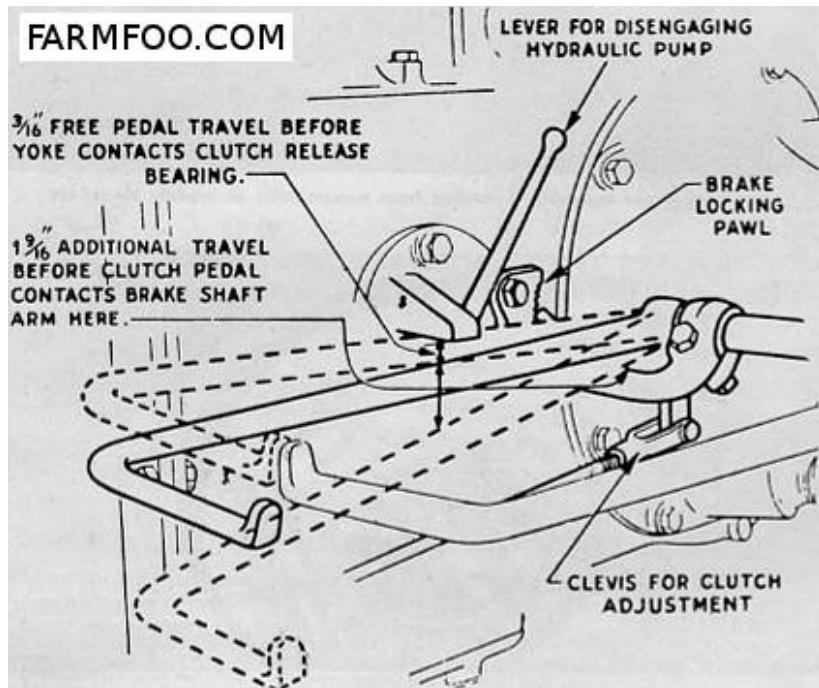

Fig. F048 - Clutch pedal adjustment on models 2N-9N.
63. Free travel of models 2N-9N clutch pedal should be $\frac{3}{16}$ inch and for model 8N $\frac{3}{4}$ inch. To adjust pedal clearance on models 2N-9N, remove clutch rod clevis pin as shown in Fig. F048 and screw clevis pin in or out as required and reconnect. Early model 8N tractors have an adjustment screw which is part of clutch pedal as shown in Fig. F049. Later 8N tractors have a rod linkage system with a clevis adjustment.